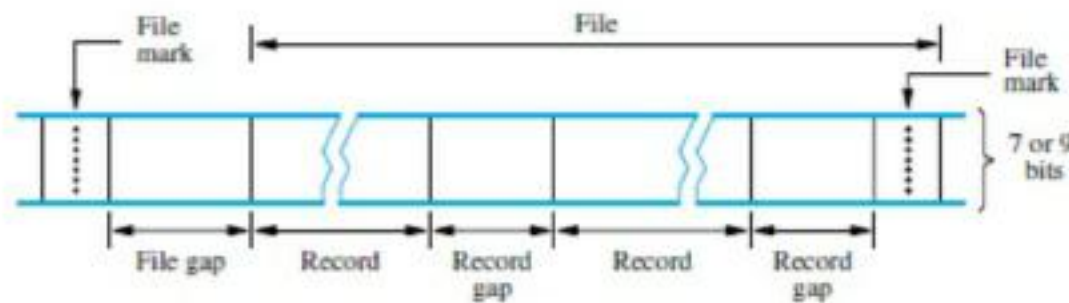

Figure 8.30 Organization of data on magnetic tape.
- Data on the tape are organized in the form of **records** separated by gaps, as shown in Figure 8.30.
- The large amounts of data, a group of related records is called a **file**. The beginning of a file is identified by a **file mark**, as shown in Figure 8.30.